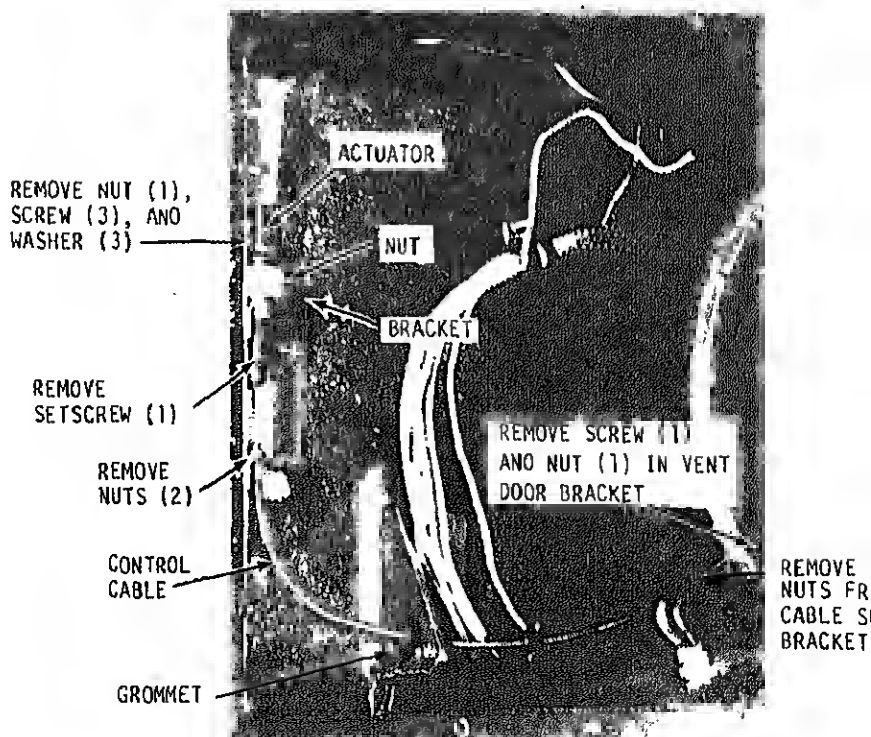

Figure 4-23. Vent damper actuator removal and installation.
(2) Refer to figure 4-23 and disassemble the vent damper actuator and control assembly as follows:
(1) Refer to figure 4-23 and install the vent actuator and control assembly as follows: